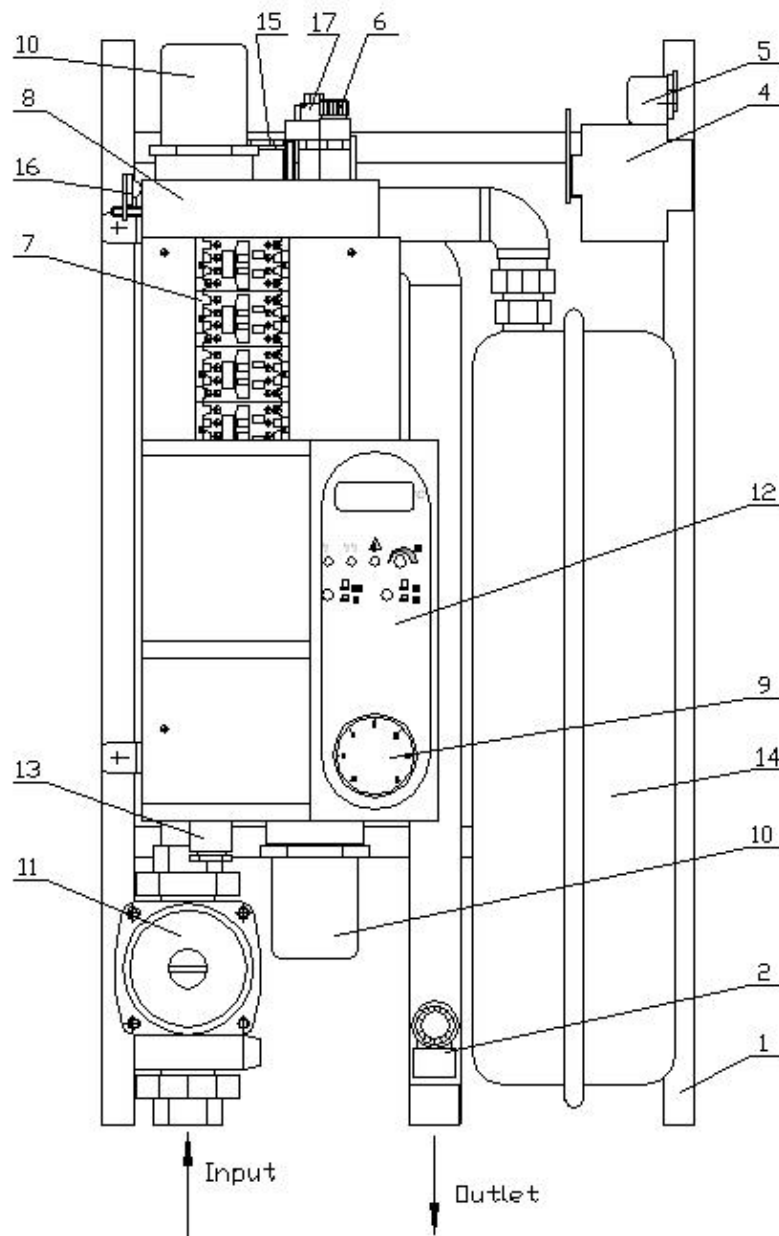
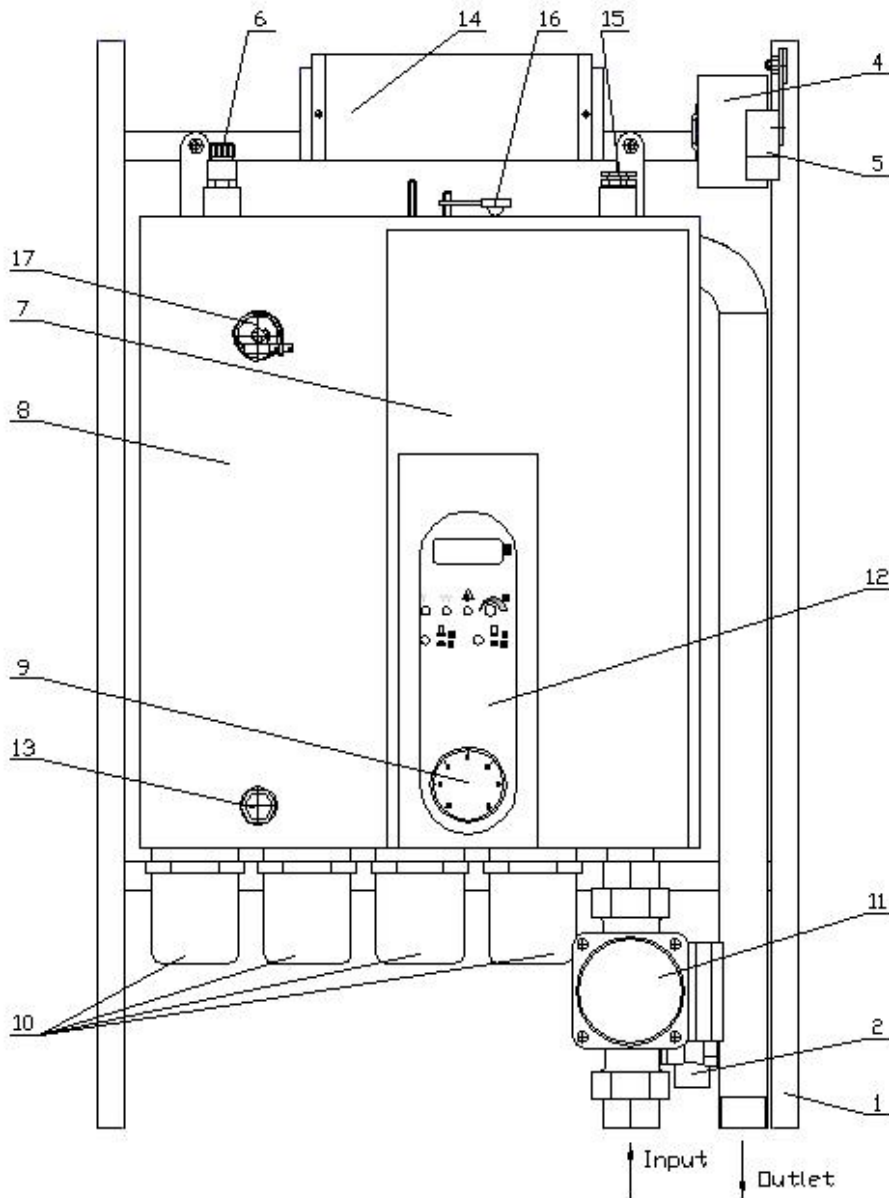
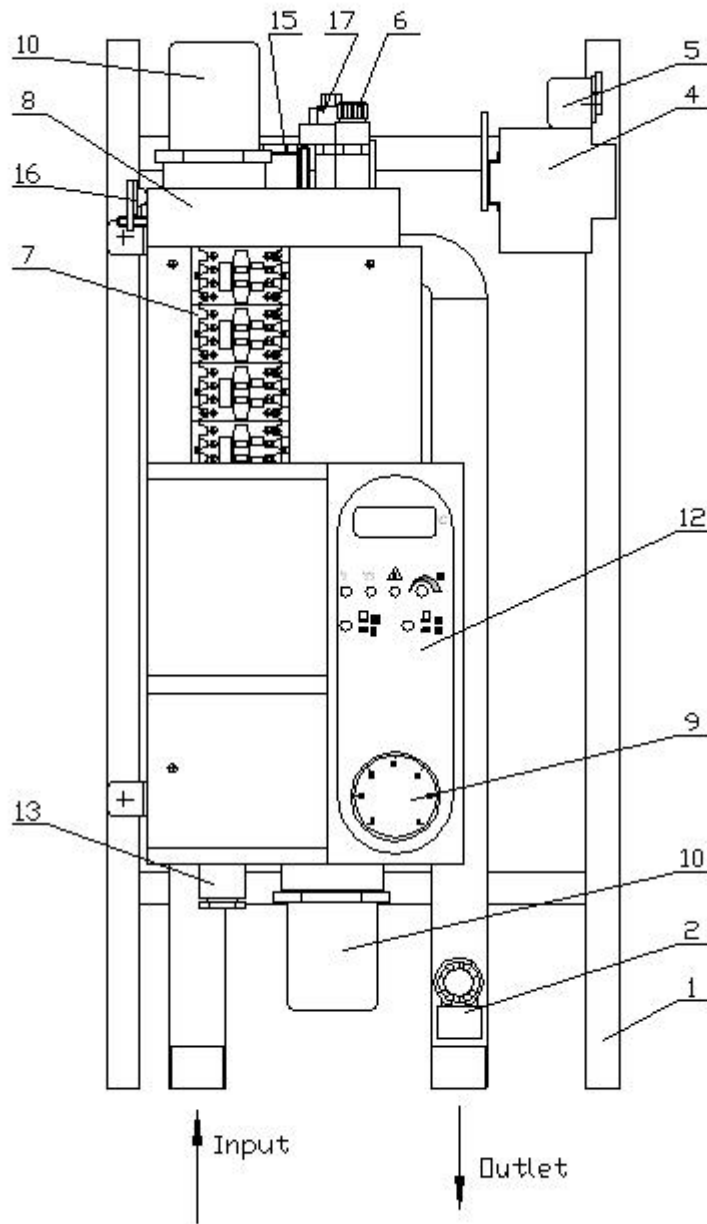
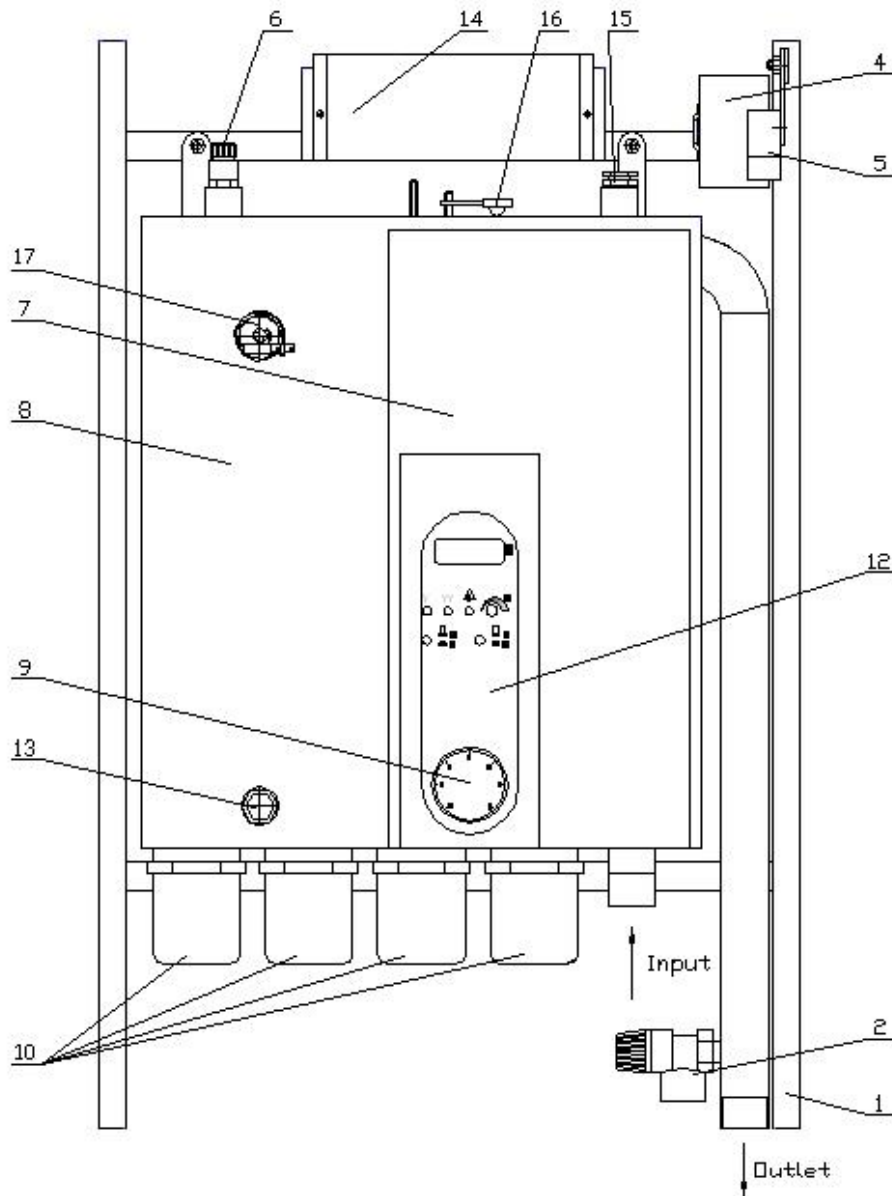

Fig. 3
Fig. 4
Fig. 5
Fig. 6
- Structure of the electric boiler/ module, see Fig. 3 page 7, Fig. 4 page 8, Fig. 5 page 9, Fig. 6 page 10.